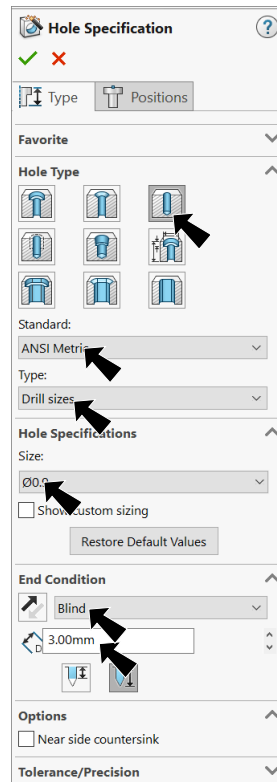

Fig. 19
- Step 4. In the Property Manager set: under Hole Type, Fig. 19